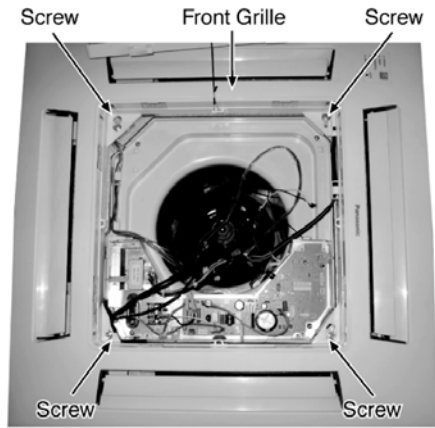

Fig. 5
5. Remove the Front Grille by removing the screw A and screw B, C & D half way open (Fig. 5).